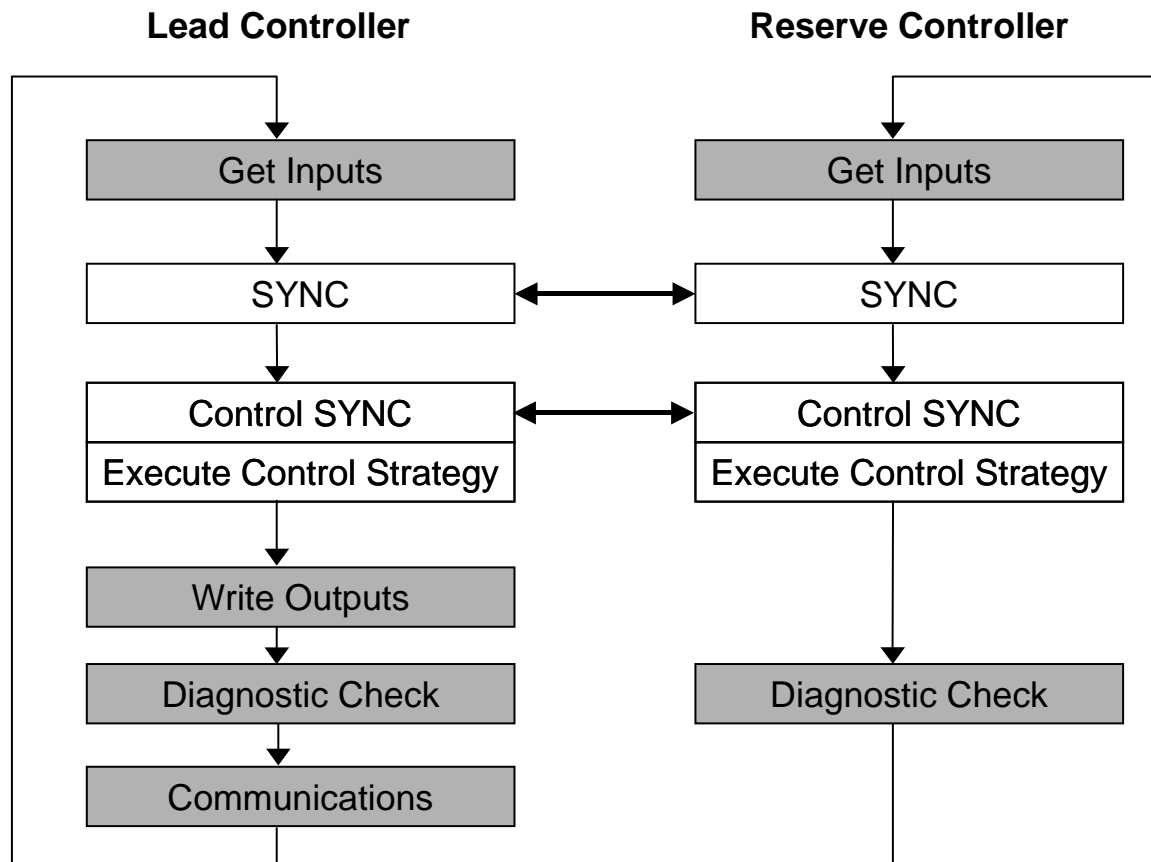

Figure 78 – Lead/Controller synchronization
- Both the Lead and Reserve Controllers execute the function blocks in the control strategy, but only the Lead Controller writes the physical outputs to the I/O Racks. See Figure 78.